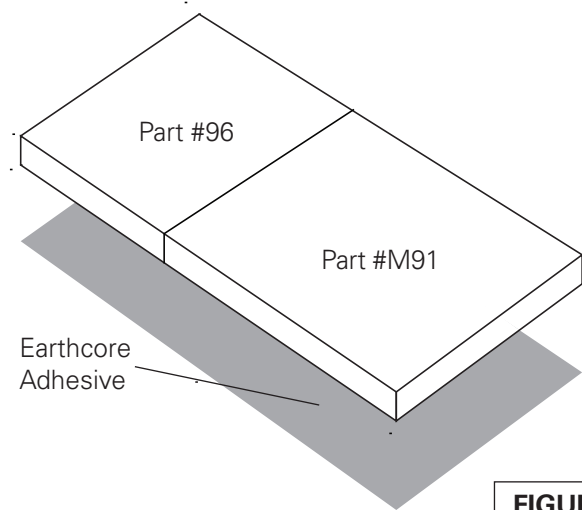

FIGURE 15
1. Apply Earthcore adhesive to the joint between part #96 and part # M91 and set the base plates in a full bed of Earthcore Adhesive on a level support surface. See page 14 for supporting floor system. **(Figure 15)**. Do not set the base plate so that it is in span. The overall length of the base plate assembly should measure 73-1/2" and 28" deep.